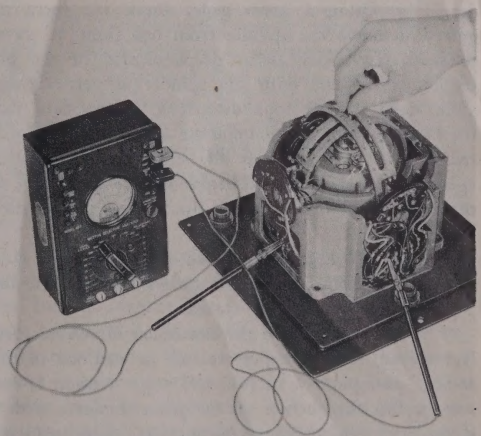

Figure 229 — Checking Potentiometers for Shorted Turns
5. (See figure 229.) Check all four potentiometers for shorted turns and cleanliness. This is done by connecting the ohmmeter between one end of the potentiometer and the wiper, and by moving the wiper over the entire arc of contact. Movement must be slow and uniform from one end of the potentiometer to the other. As the wiper moves across the potentiometer, watch the ohmmeter needle carefully. Any fluctuation of the ohmmeter needle indicates dirt on the potentiometer windings. Such dirt may usually be removed by merely wiping the potentiometer with a dry, lint-free cloth, although, in some cases, it may be necessary to moisten the cloth with alcohol. If alcohol is not available, carbon tetrachloride may be used. Always finish cleaning with a dry, lint-free cloth. Shorted turns are indicated by a hesitation of the needle as the wiper moves across the potentiometer. More than four consecutive shorted turns in any $\frac{1}{4}$ -inch of travel of the wiper over the potentiometer will not give satisfactory operation, and the potentiometer should be replaced. Extreme care must be used in making this check so that